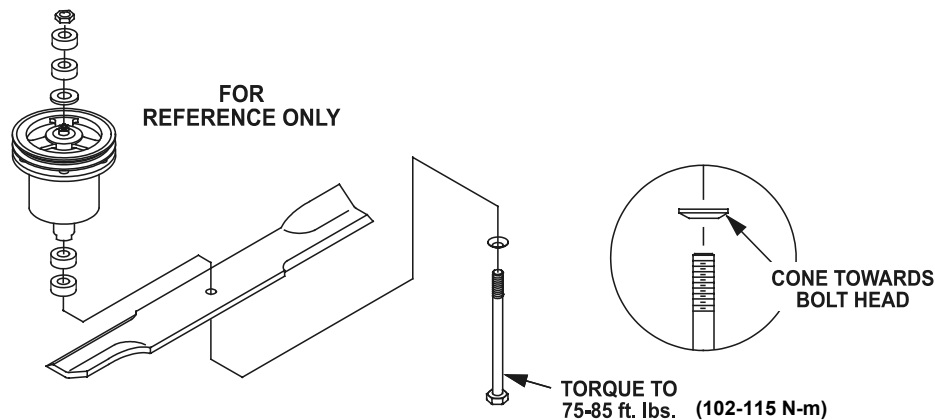

FIGURE 10
- g) Re-install the blades (if they were removed) and torque blade bolts to 75-85 ft. lbs. (102-115 N-m). Be sure the spring disk washer cone is installed toward the bolt head (See Figure 10).